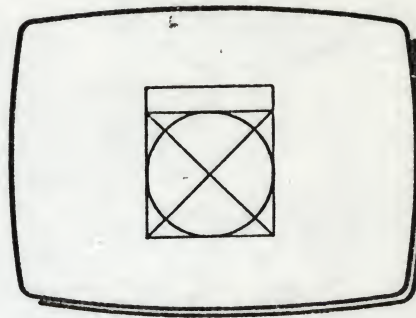

Fig 2
- 3 Draw, and the FILE the shape shown in Fig 2.